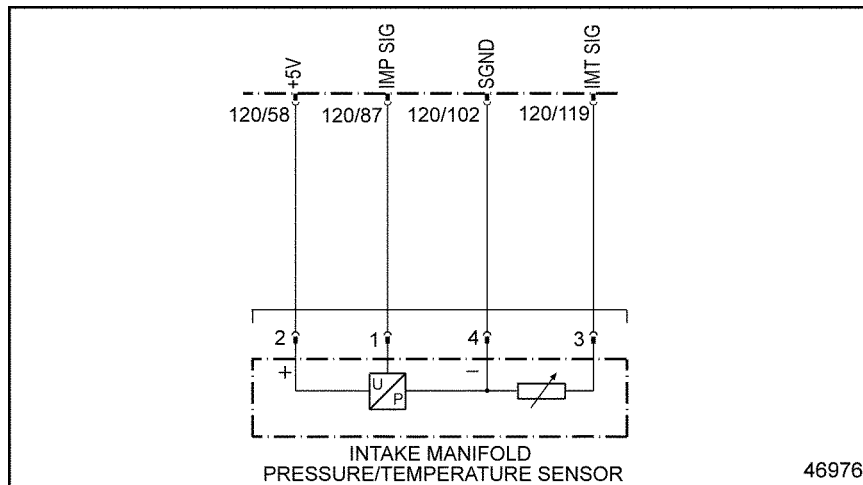

Figure 43-2 Intake Manifold Pressure/Temp Sensor
3. Measure the resistance between pins 1 and 2 of the Intake Manifold Pressure/Temp Sensor. See Figure 43-2.
4. Measure the resistance between pins 2 and 4 of the Intake Manifold Pressure/Temp Sensor. See Figure 43-2.